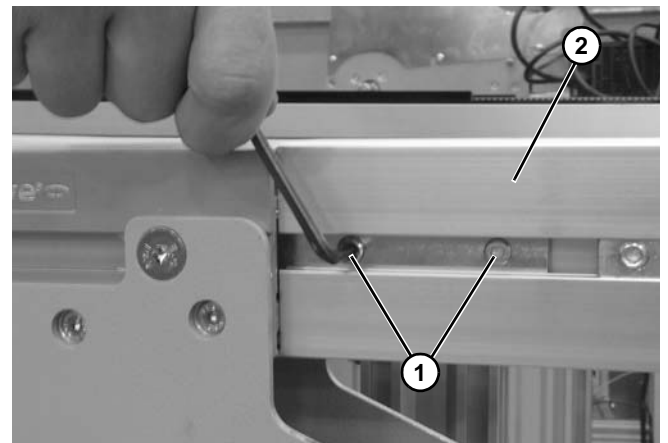

Figure 181
5. Remove set screws (Figure 181, item 1) on both sides of the conveyor (Figure 181, item 2).